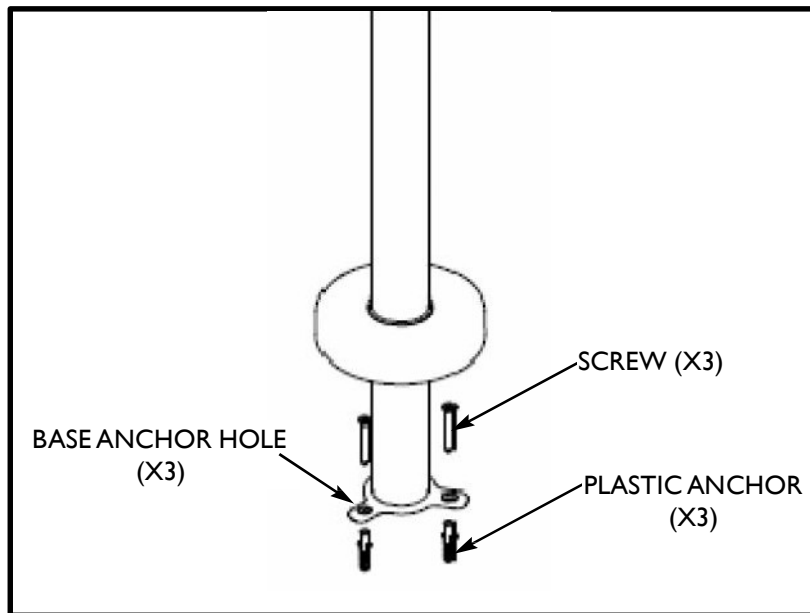

Figure 7
STEP 4: Securing the Tub Filler to the Floor: Figure 7 illustrates the hardware required to mount the Tub Filler Riser to the floor.